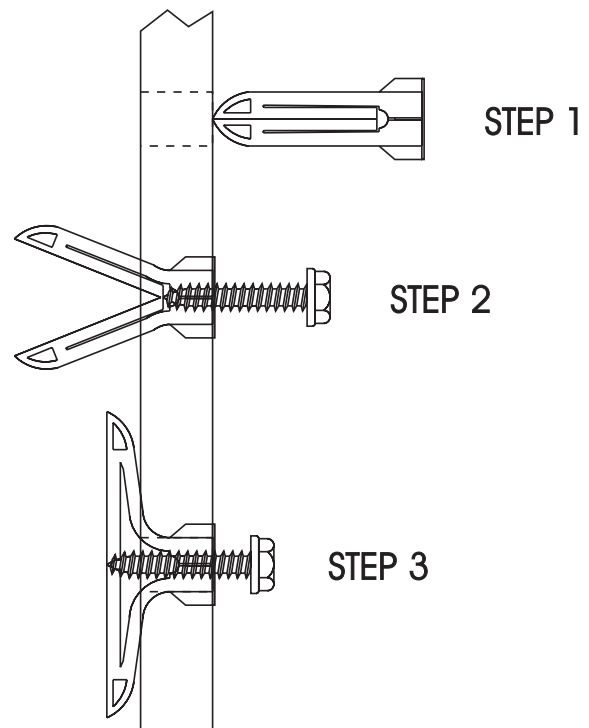

Figure 9
1. After locating mounting holes, drill two (2) 5/16" diameter holes into the wall.
2. Insert two (2) plastic expansion anchors provided into the holes.
3. Tighten two (2) 10 x 1" screws provided into the plastic expansion anchors. (See Figure 9)